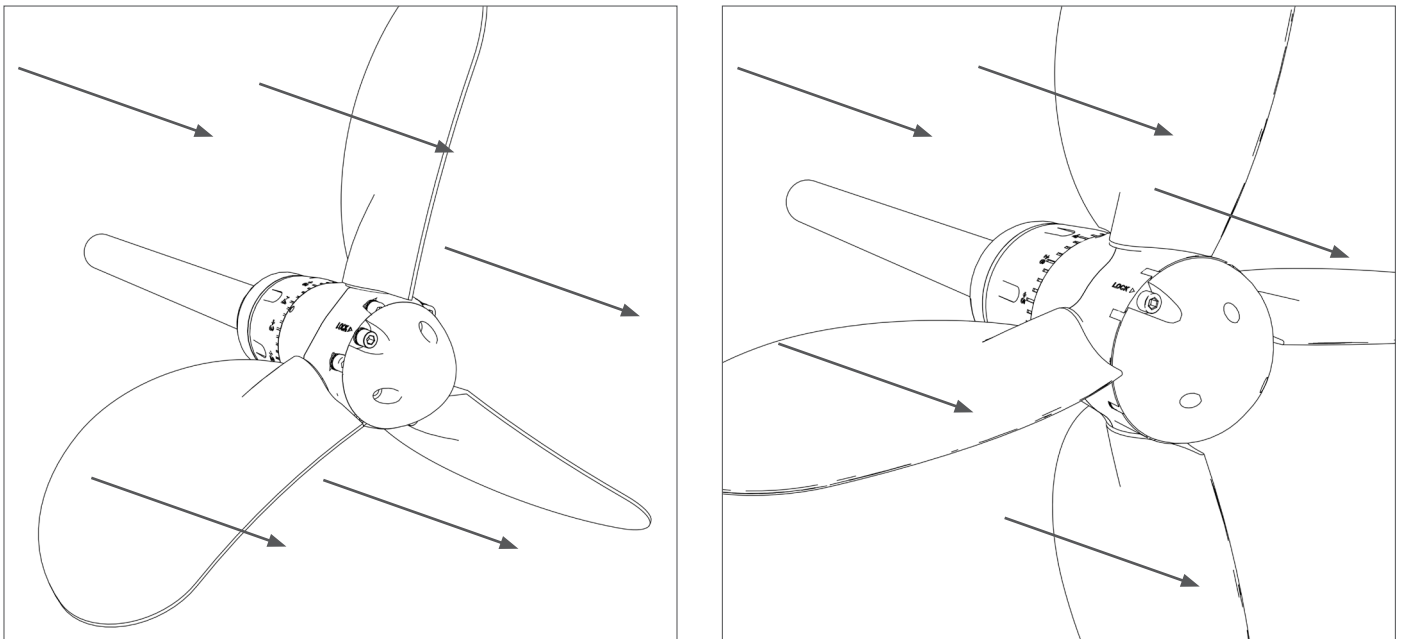

FIG. 28 | Water flow
- The blades will now automatically move to feathering position, with minimum resistance to movement (**Fig. 28**).